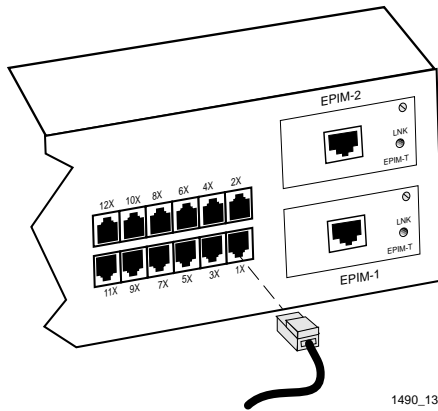

Figure 4-1. SEH-24 Network Ports
1. Insert the RJ45 connector from each twisted pair segment into the desired network port on the SEH. See Figure 4-1.